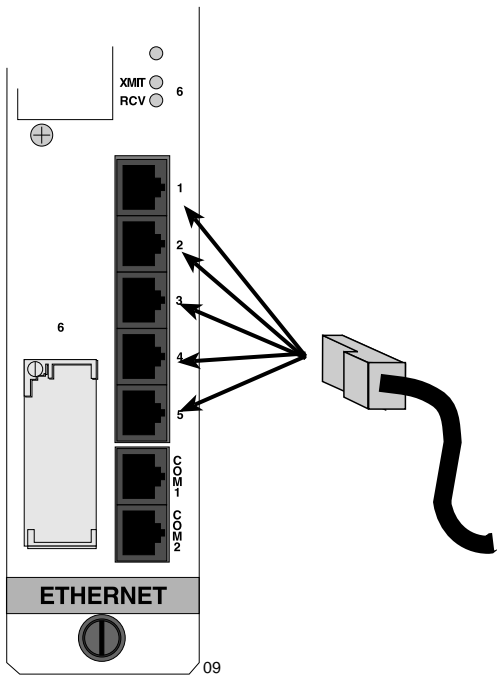

Figure 3-5 ESXMIM Twisted Pair Connection
1. Align the RJ45 connector with the socket of the RJ45 port. The connector will only insert and lock if the raised locking clip of the RJ45 connector is inserted into the correct location. Figure 3-5 shows the RJ45 ports on the ESXMIM to which 10BASE-T cables may be connected.